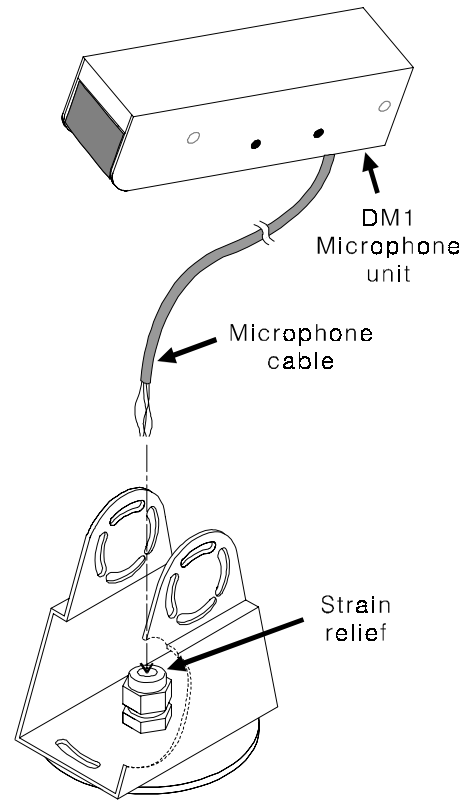

Figure E-4. Routing cable through strain relief
- Route the 6 foot (152 mm) DM1 Microphone cable all the way through the hole in the mounting bracket strain relief as shown in Figure E-4.